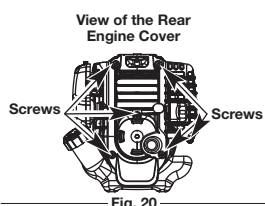

Fig. 20
- Remove the six (6) screws on the back of the engine cover with a Flat-head or T-25 Torx screwdriver (Fig. 20).
- Remove the engine cover (Fig. 20).
- Stop the engine and allow it to cool. Remove the six (6) screws on the back of the engine cover with a Flat-head or T-25 screwdriver (Fig. 20).